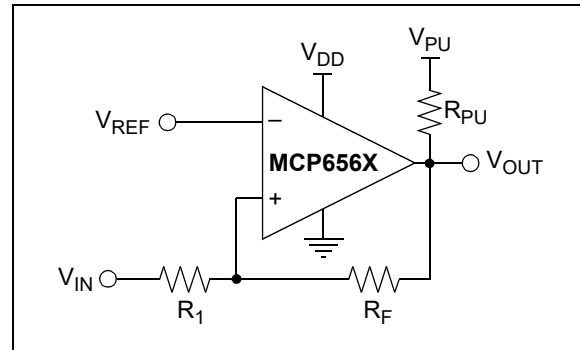
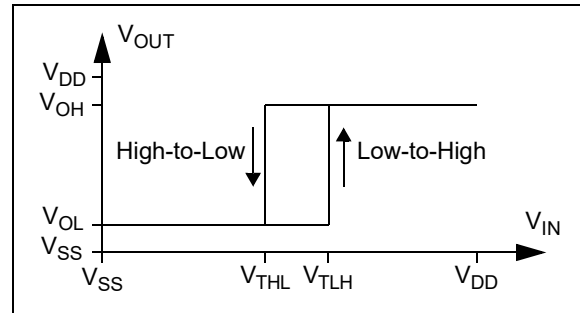

FIGURE 4-4: Noninverting Circuit with Hysteresis for Single Supply.
FIGURE 4-5: Hysteresis Diagram for the Noninverting Circuit.
Figure 4-4 shows a noninverting circuit for single-supply applications using just two resistors. The resulting hysteresis diagram is shown in Figure 4-5.
The trip points for Figures 4-4 and 4-5 are:
2. Noninverting Configuration (Figure 4-4):